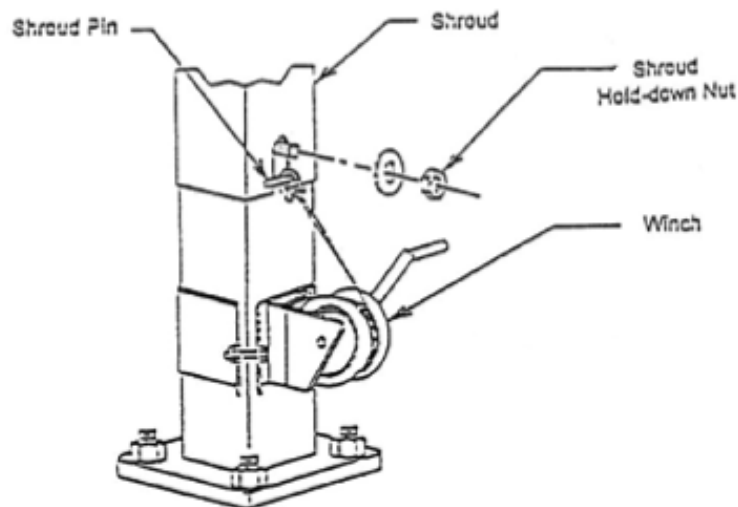

FIGURE 6
- Attach winch to pole. (FIG6).
- Attach cable end to shroud pin (FIG6).
- Remove shroud hold-down nut (FIG. 6).